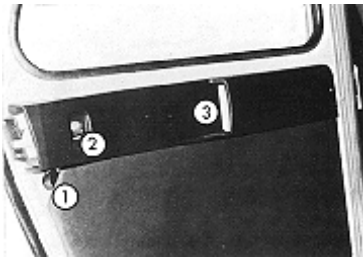

Fig. 2
To open: Front doors: raise the lever situated at the front of the doors. Rear doors: (Fig. 2): press the lever (1)